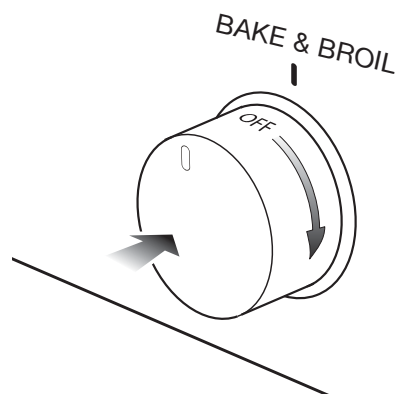

Fig. 3.4
2. Press the oven control knob right down (the ignitors will start 'clicking') turn the knob clockwise (fig. 3.4) to the "**BROIL**" position.